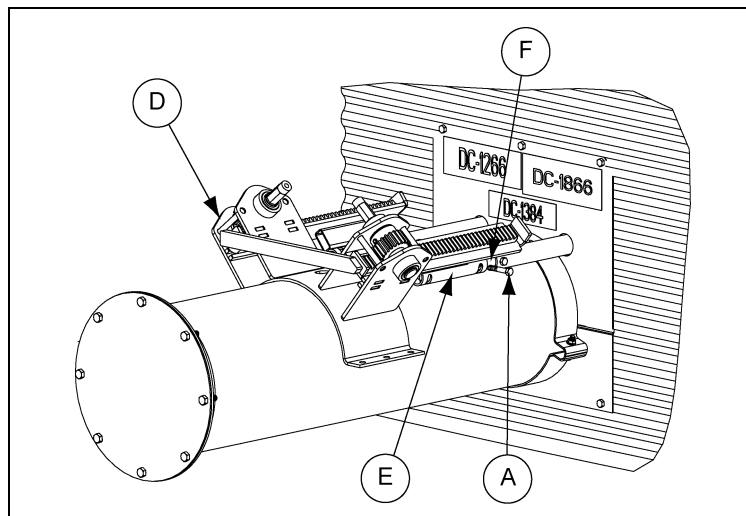

Figure 4T
3. Slip the rack and pinion tube over the centerwell gate control rod and slip the outside intermediate well adapter pipe into the outside intermediate control rod. Align the holes to the centerwell control rod (F) and the outside intermediate well control rod with the matching holes on the rack and pinion. Make sure the rack and pinion is fully extended towards the bin wall. (See Figure 4T.)